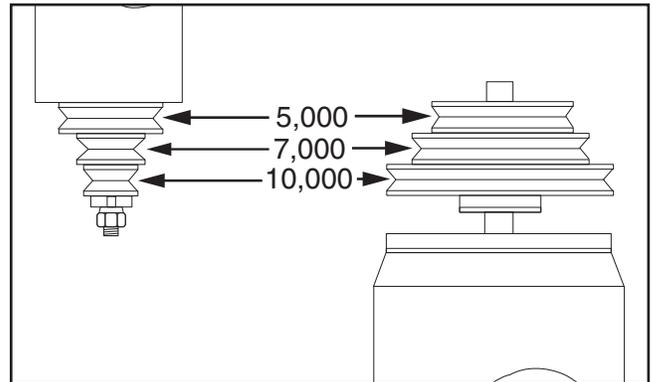

Figure 66. Different speed options.
3. Move V-belt to sheave on motor and spindle pulleys to select desired speed (see **Figure 66**.)